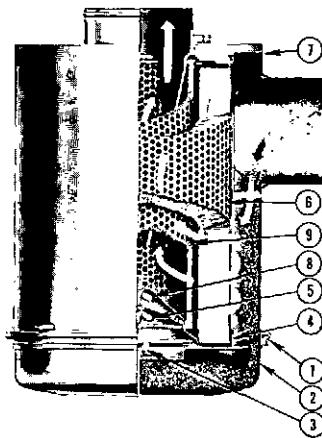

Fig. 5-8, N11030. Air cleaner - heavy duty dual element
through a ring of vanes around and thru a primary element (6, Fig. 5-8) and then through a safety element (9, Fig. 5-8) and on into the engine.
1. Loosen wing bolt, remove band (1, Fig. 5-8), securing dust pan (2).
2. Loosen wing nut (3), remove dust shield (4) from dust pan (2), clean dust pan and shield.
3. Remove wing nut (5) securing air cleaner primary element (6) in air cleaner housing (7) inspect rubber sealing washer on wing nut (5).